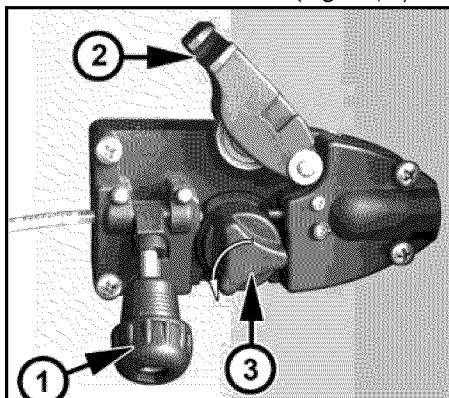
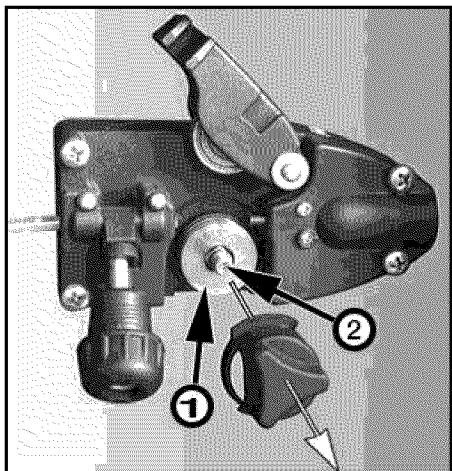

Fig. 2a
Fig. 2b
- Release the drive tension by loosening and unlatching the Drive Tension Adjusting Knob (Fig. 2a, 1) from the Drive Tension Arm (Fig. 2a, 2). Lift up the Drive Tension Arm (Fig. 2a, 2).
- Rotate the Drive Roller Cap (Fig. 2a, 3) counterclockwise and remove it from the Drive Roller (Fig. 2b, 1).
- Pull the Drive Roller off of the Drive Roller shaft. (Fig. 2b, 2)